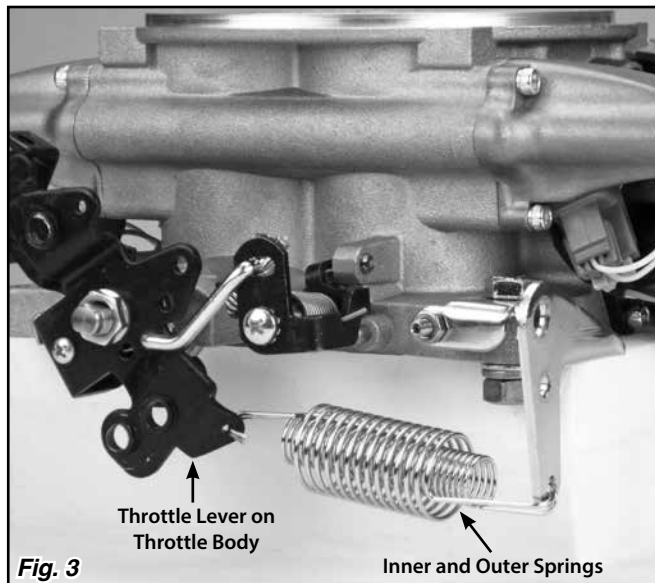

Fig. 3
Step 4: Connect the inner and outer springs to the small hole in the throttle lever, and to the bottom hole in the Throttle Cable Bracket. **Fig. 3**